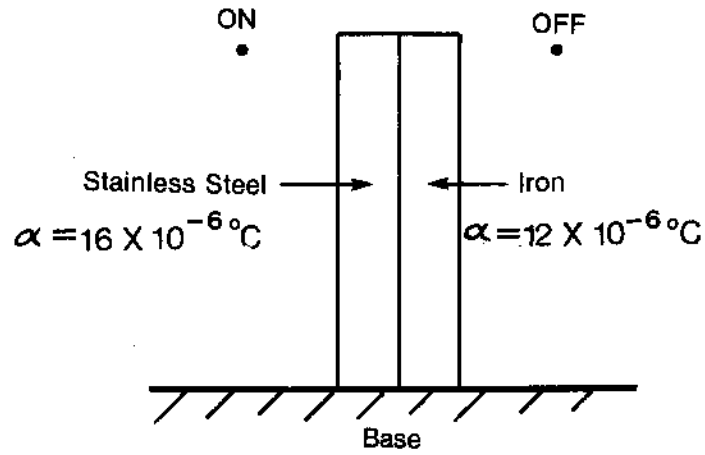

Figure 2.2
2.7) Towards which contact will the strip shown in Figure 2.2 move as it is cooled? Briefly explain why.
2.5) The original lengths of the two materials are the same and both substances undergo a  $5^\circ\text{C}$  temperature difference. The behaviour of the strip thus depends on the coefficients of linear expansion of the two metals. Since the coefficient for brass is greater than that for carbon steel, the brass will become longer. The only way this situation can occur in this strip is if the strip bends as shown in Figure 2.2.